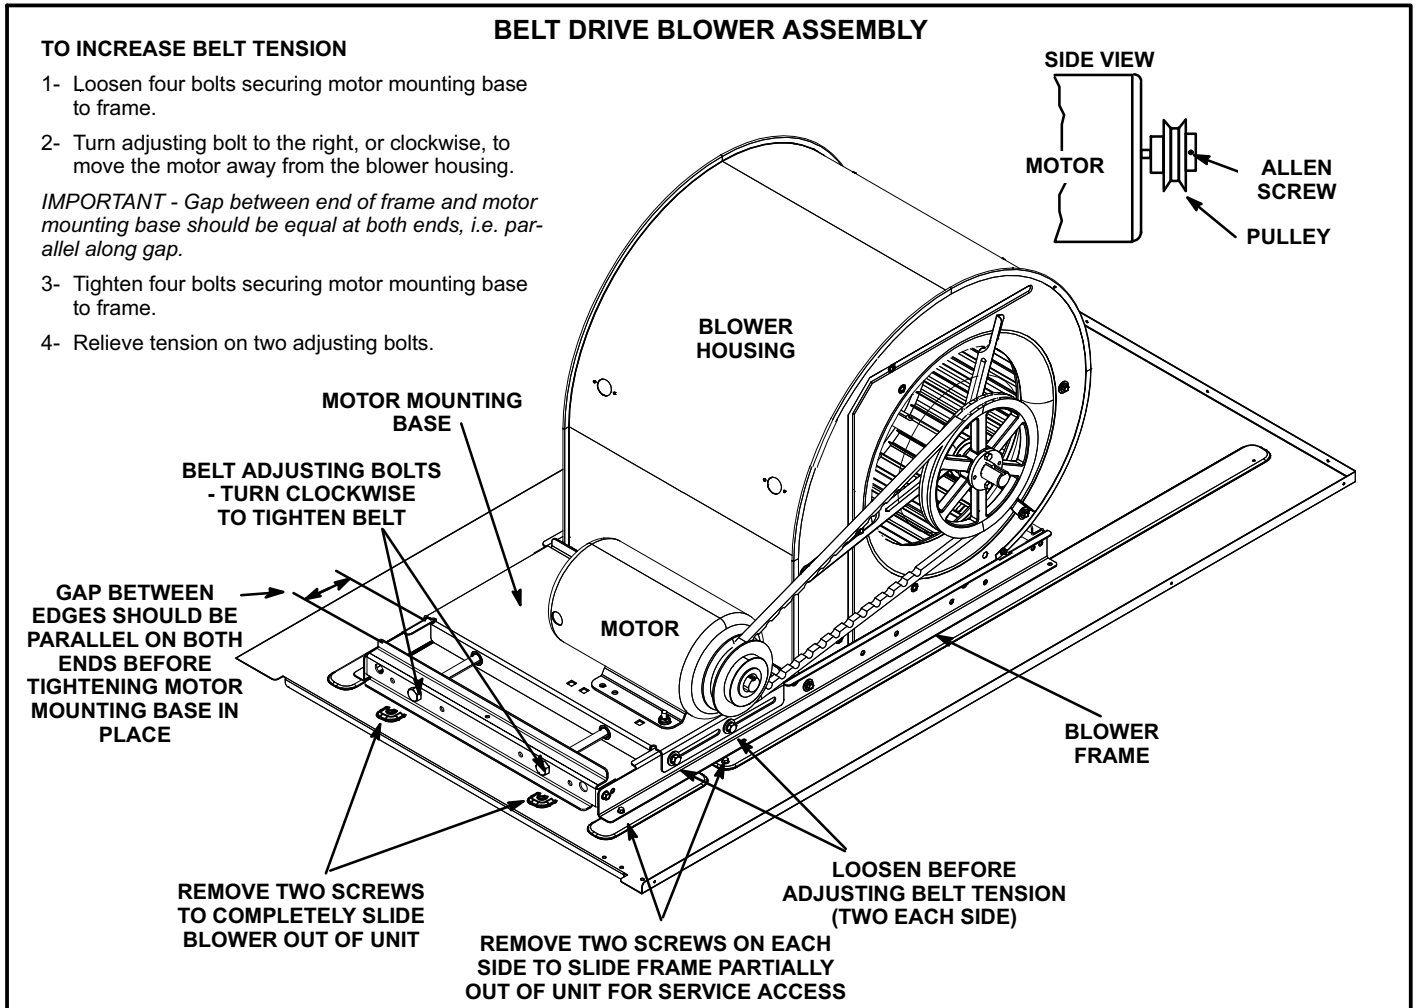
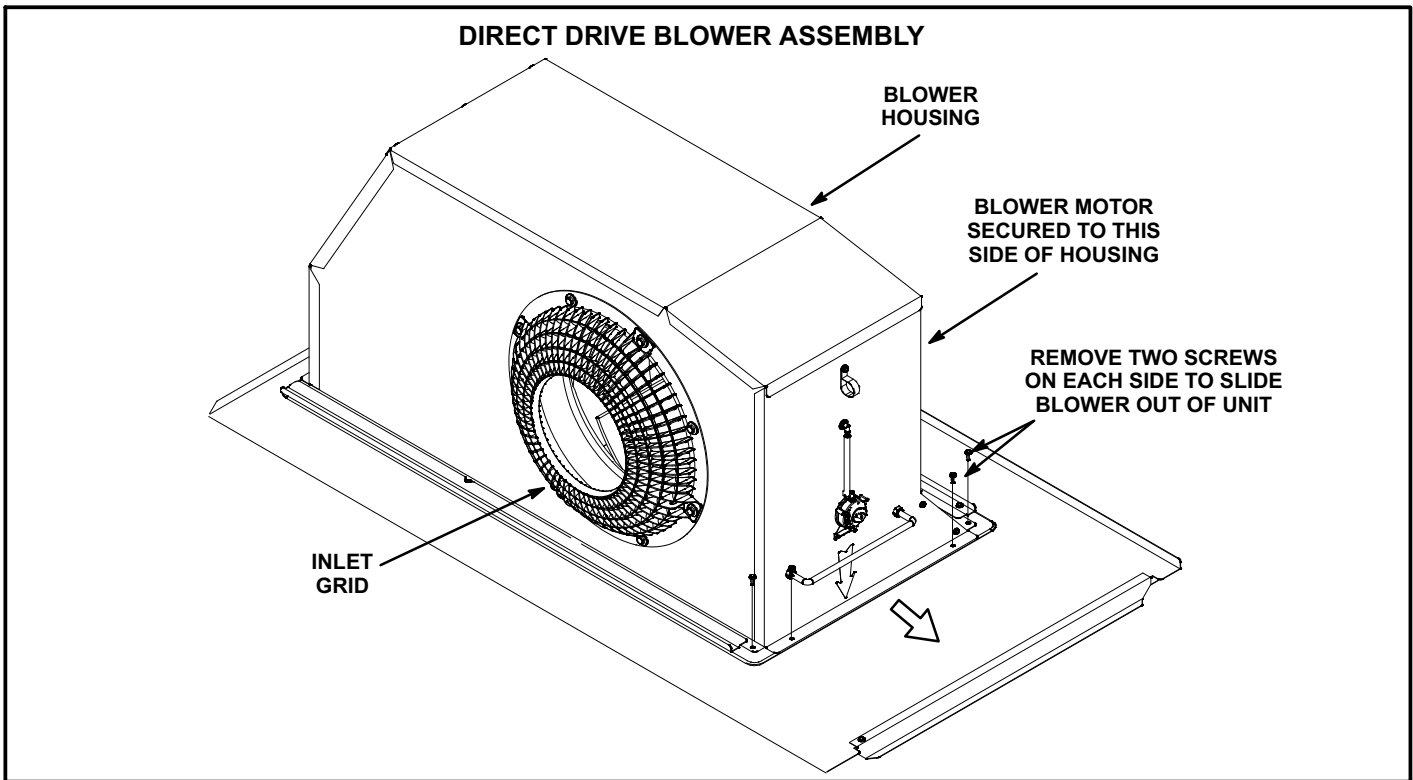

FIGURE 14
FIGURE 15
The blower compartment in all KHA/KHB092/150 units is located between the indoor coil and the outdoor coil section. The blower assembly is accessed by disconnecting the blower motor and all other plugs and removing the screws in front of the blower housing. The blower pulls out as shown in figures 14 and 15.
The blower assembly is secured to a sliding base which allows the entire assembly to be pulled out of the unit. See figure 14 for belt drive assembly and figure 15 for direct drive assembly. Follow the steps below.
- 4- The blower RPM can be adjusted at the motor pulley. Loosen Allen screw and turn adjustable pulley clockwise to increase CFM. Turn counterclockwise to decrease CFM. See figure 14. Do not exceed minimum and maximum number of pulley turns as shown in table 6.
- 1- Loosen four bolts securing motor base to mounting frame. See figure 14.